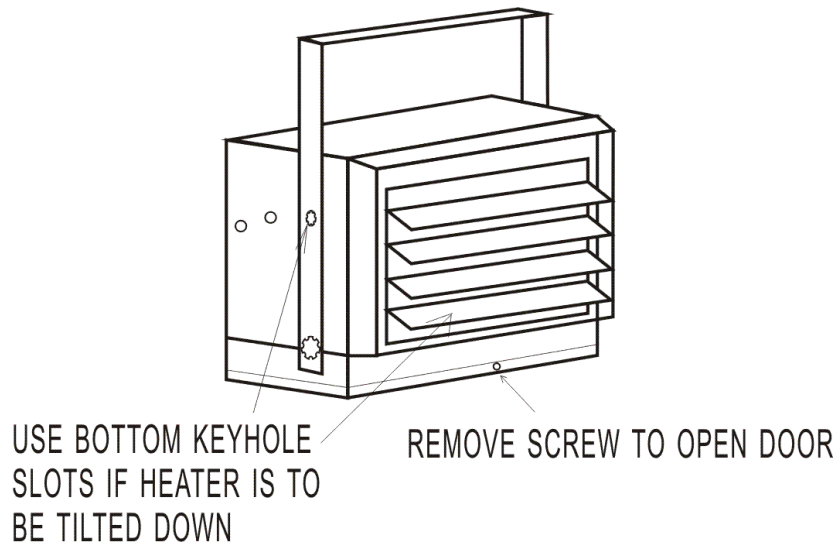

Figure 5
- 4) If the heater is to be tilted it must be positioned in the keyhole slots - see **figure 5**.
2. To tilt the unit vertically, loosen the bracket screws (see figure 5).